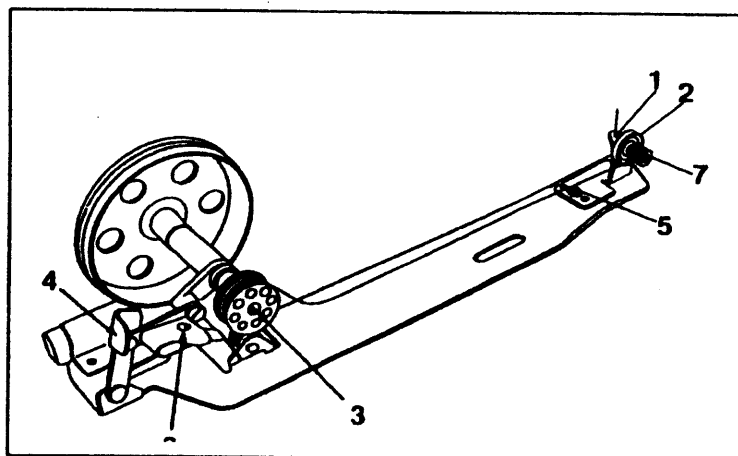

Fig. 3
7. Winding the lower thread: (Fig.3):
8. Adjustment of the bobbin winder: (Fig.3):